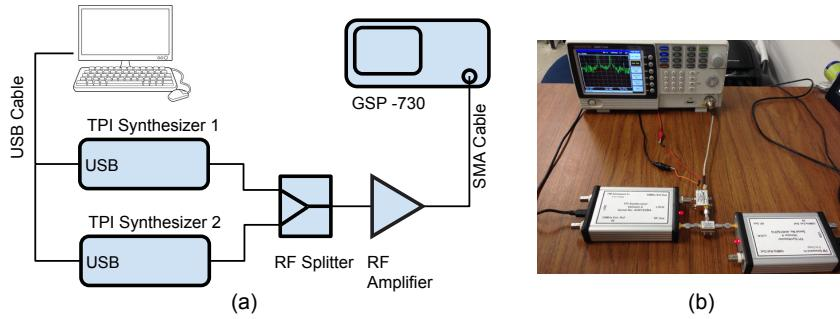

Figure 20: Amplifier IP3 measurement setup.
1. For the IP3 measurement, we need two input signals with a slight frequency offset. Set up the measurement as illustrated by Fig. 20.